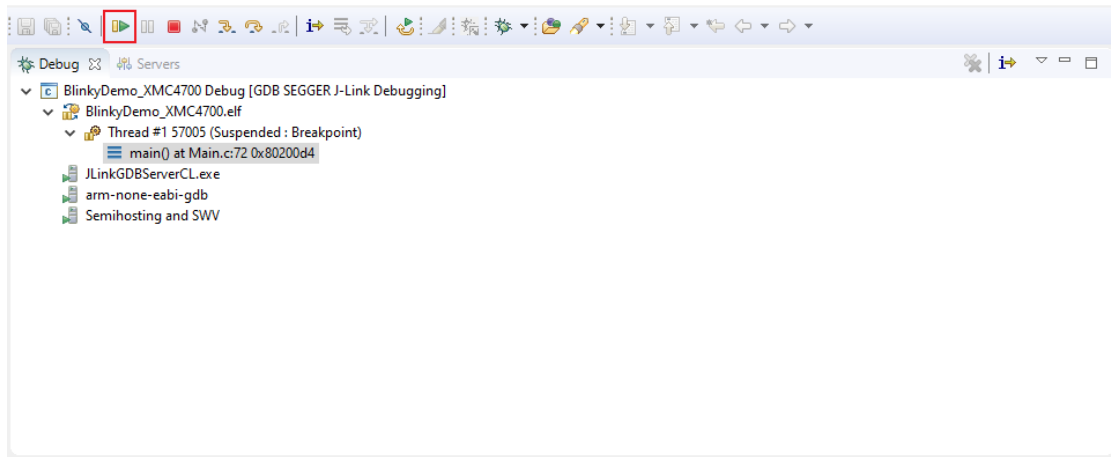

Figure 42: *DAVE IDE* Debug view
8. To start the execution of the application press **F8** or click on the *Resume* icon as seen in Figure 42.